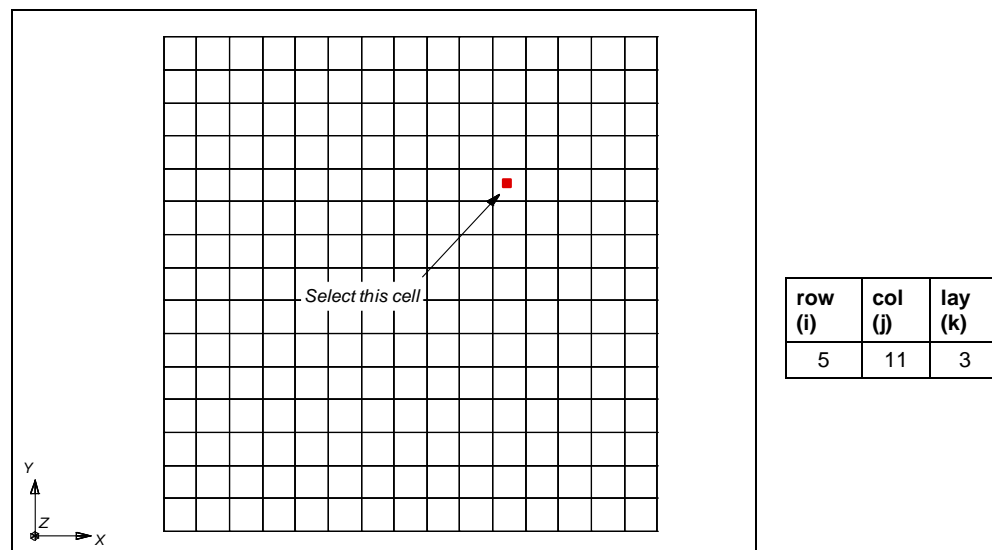

Figure 7 Cell to be selected on bottom layer
2. Select the cell as shown in **Figure 7**.